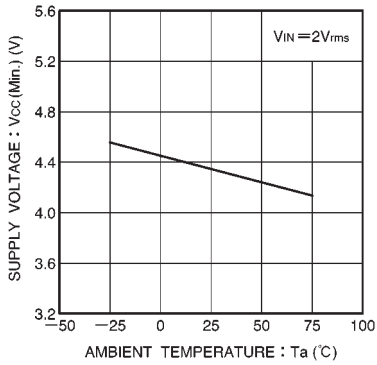

Fig. 6 16th point lighting limit supply voltage vs. ambient temperature
(1) Adjust the potentiometers VR_1 and VR_2 (connected to pins 1 and 3) to adjust the 0dB input level and the dispersion of ch1 and ch2.
(2) The temperature characteristic for the lighting limit for the 16th LED is shown in Fig. 6.